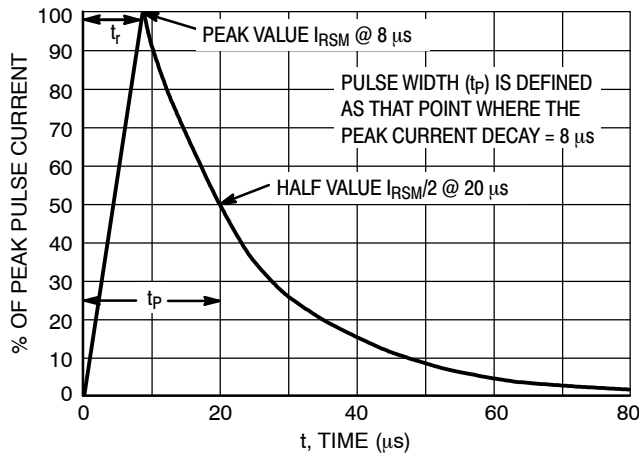

Figure 5. 8 X 20 μs Pulse Waveform
1. Nonrepetitive current pulse per Figure 5 (Pin 5 to Pin 2).
- Nonrepetitive current pulse per Figure 5 (Pin 5 to Pin 2).
- Nonrepetitive current pulse per Figure 5 (Any I/O Pins).
- Surge current waveform per Figure 5.